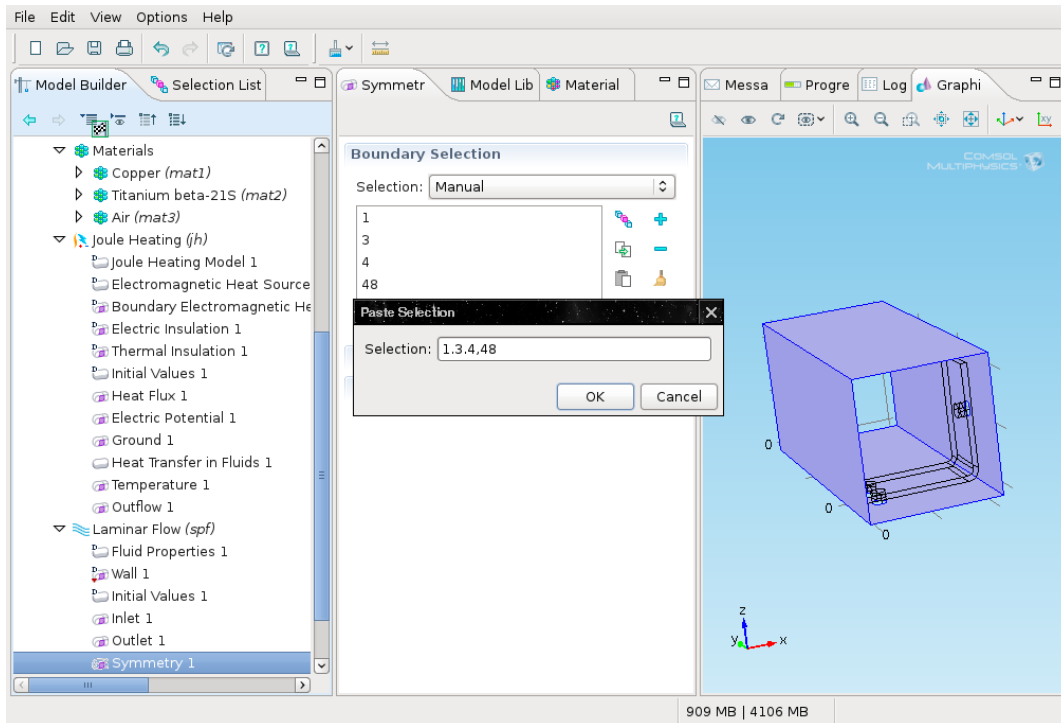

Figure 23: Entering the selection.
**Remark:** The indexes can be entered via the *Paste Selection* dialogue if the indexes are known (Fig. 23).